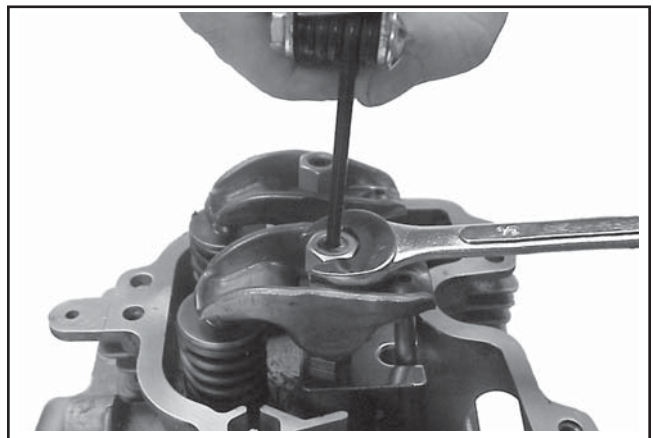

Figure 11-47. Torquing Set Screw (Adjusting Valve Lash).
- d. Hold the adjustment nut from turning and tighten the set screw to lock it in position. Torque the set screw to **7.3 N·m (65 in. lb.)**. See Figure 11-47. After tightening, verify lash is **.07/.12 mm (.003/.005 in.)**; readjust if necessary.